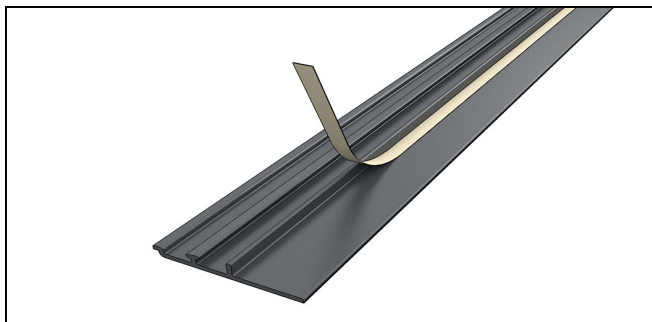
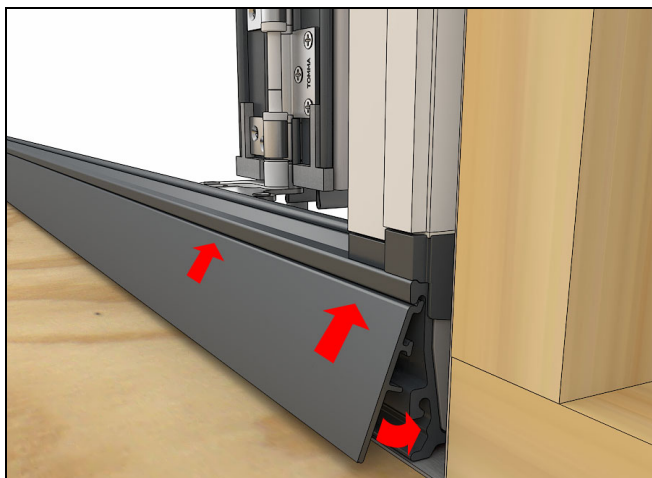

Figure 57
Figure 58
4. Peel the tape backing off the interior sill liner and rotate the liner onto the sill as shown in Figure 57 and Figure 58.